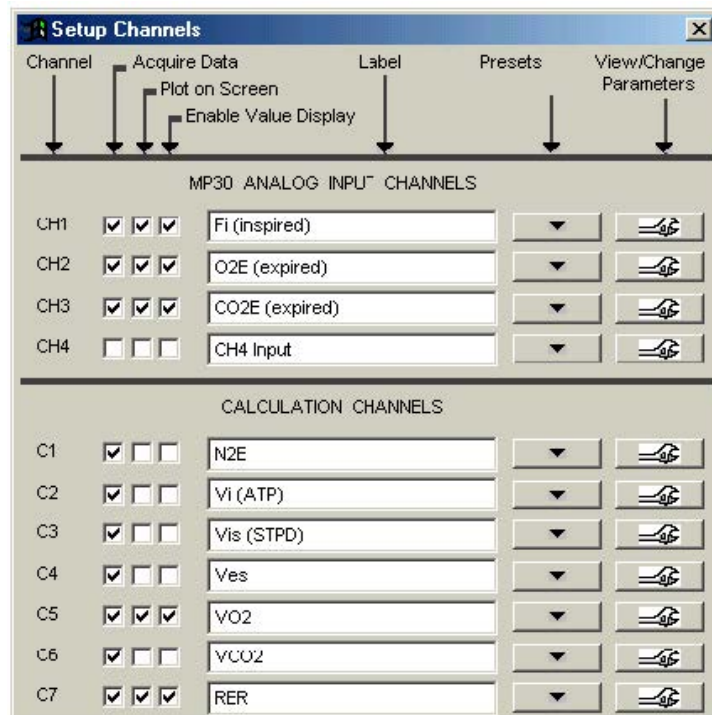

Figure 5: Setup Channels window for MP3X
4. Select MP3X from the menu bar, then select Setup Channels. Click the checkboxes such that it mirrors Fig. 5.